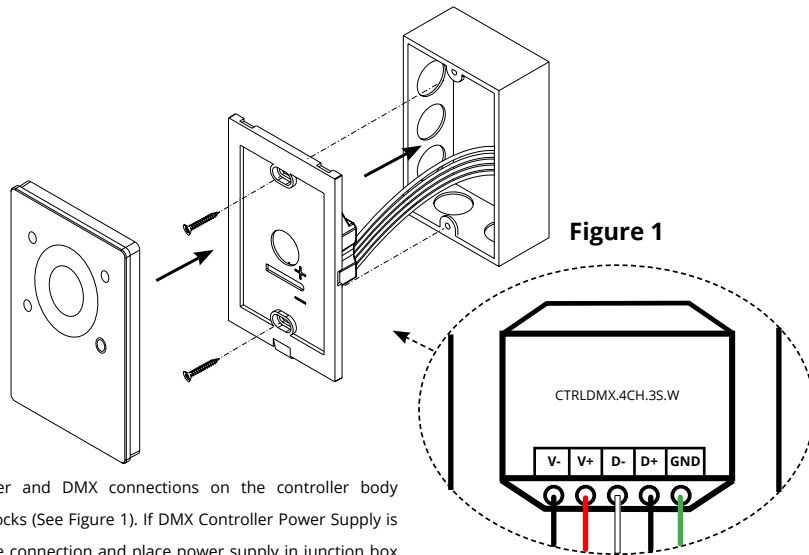

Figure 1
**5.7** Make power and DMX connections on the controller body terminal blocks (See Figure 1). If DMX Controller Power Supply is used, make connection and place power supply in junction box before proceeding to next step.